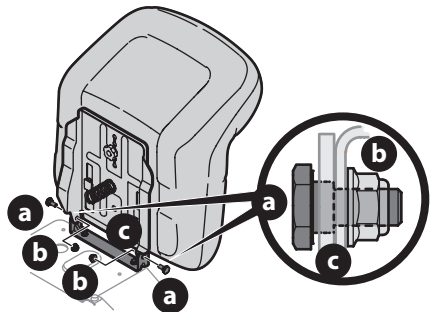

Figure 9
6. Install the two shoulder bolts (a) and lock nuts (b) removed from the seat mounting bracket (c) in Step 1 (Figure 9).
NOTE: Make sure that the bolt's shoulder is completely recessed into the seat bracket when securing the lock nut (Figure 9 inset).